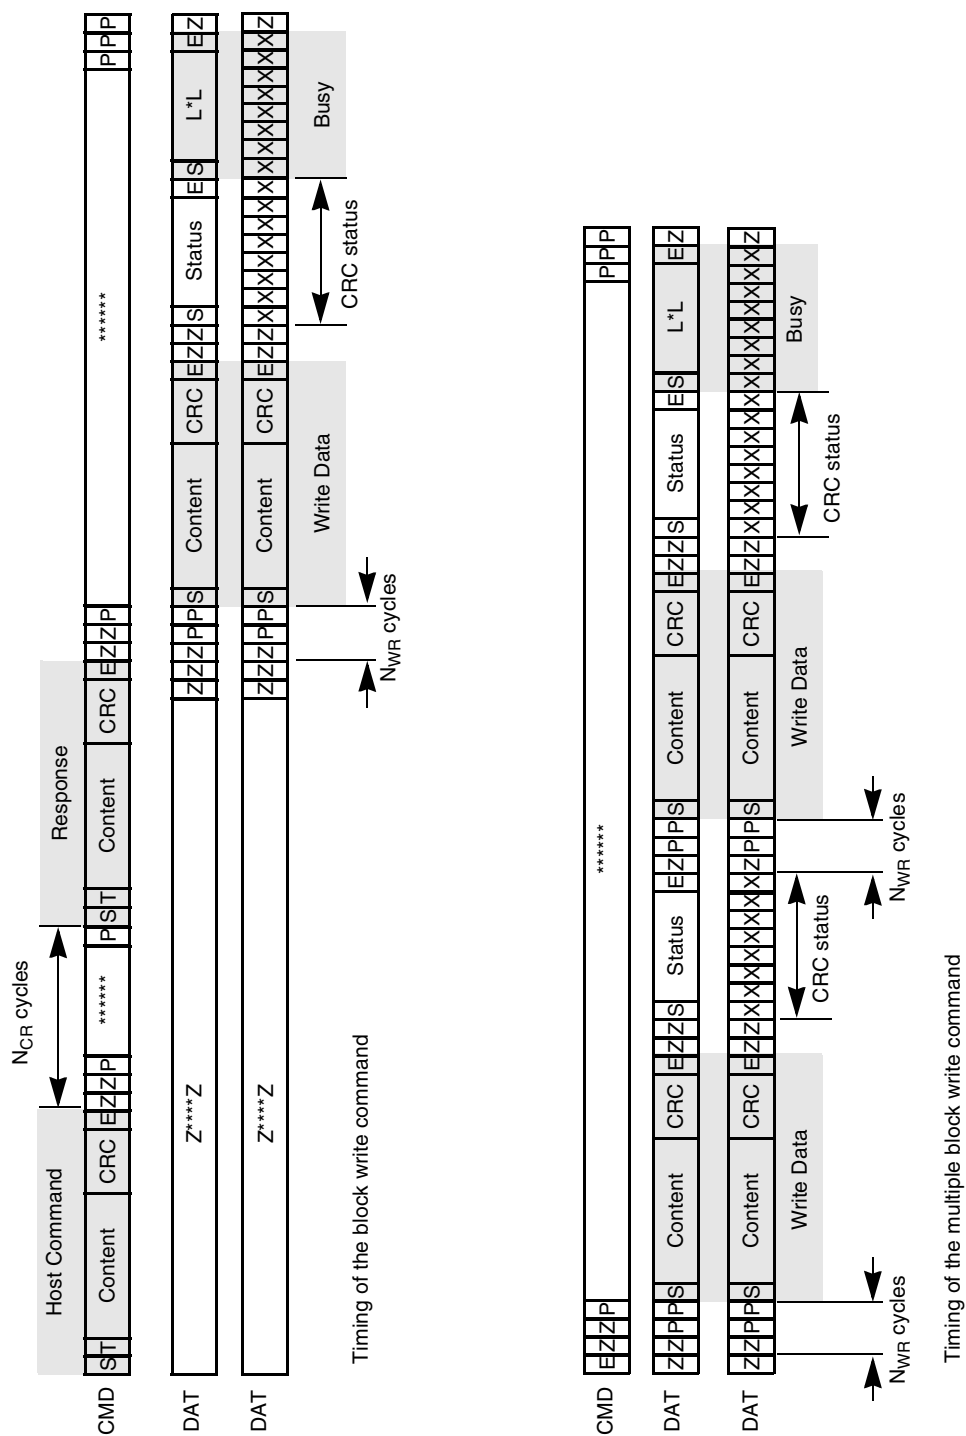

Figure 21. Timing Diagrams at Data Write
Figure 21 shows the basic write operation timing. As with the read operation, after the card response, the data transfer starts after  $N_{WR}$  cycles. The data is suffixed with CRC check bits to allow the card to check for transmission errors. The card sends back the CRC check result as a CC status token on the data line. If there was a transmission error, the card sends a negative CRC status (101); otherwise, a positive CRC status (010) is returned. The card expects a continuous flow of data blocks if it is configured to multiple block mode, with the flow terminated by a stop transmission command.